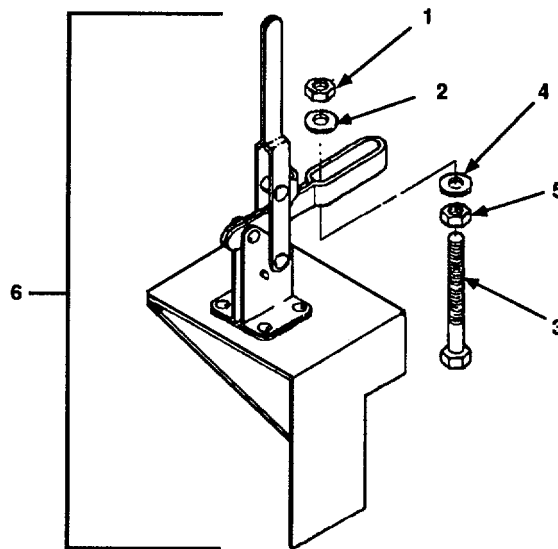

Figure 4-27. Hose Retaining Bracket Maintenance.
- a. Remove nut (Figure 4-27, 1) and flat washer (2).
- b. Remove bolt (3), flat washer (4), and nut (5).
- a. Inspect hose retaining bracket (6) for separation of welds, cracks, damaged or missing toggle. Notify direct support maintenance if hose retaining bracket (6) is damaged.
- b. Inspect nuts (1 and 5), flat washers (2 and 4), and bolt (3) for damage.